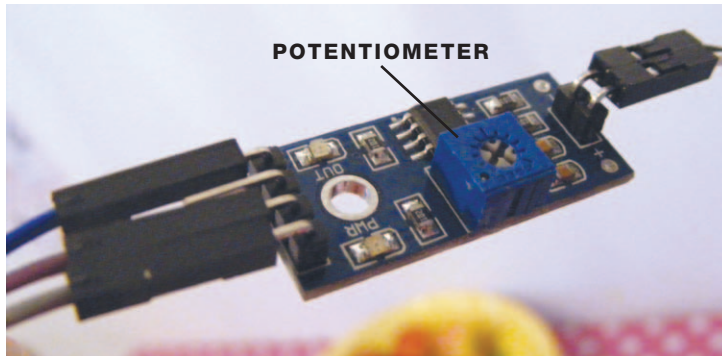

FIGURE 5-5:
6. Connect the Arduino to your computer using the USB cable. Open the Serial Monitor in your IDE to see the values from the sensor—this will also help you to calibrate your plant monitor. The IDE will display the value of the sensor's reading. My value was 1000 with the sensor dry and not inserted in the soil, so I know this is the highest, and driest, value. To calibrate this value, turn the potentiometer on the controller clockwise to increase the resistance and counterclockwise to decrease it (see Figure 5-5).